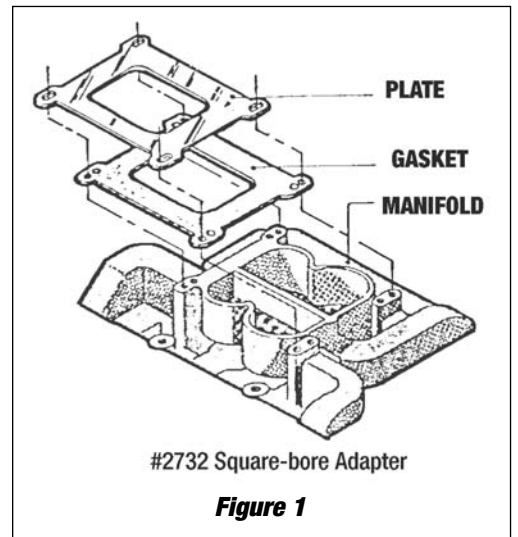

Figure 1
- **CARBURETOR PLATES AND GASKETS:** Installation of Edelbrock square-bore based carburetor requires Edelbrock square-bore carburetor adapter #2732 (supplied). Use the manufacture supplied carburetor gasket on top of the #2732 kit (**See Figure 1**).